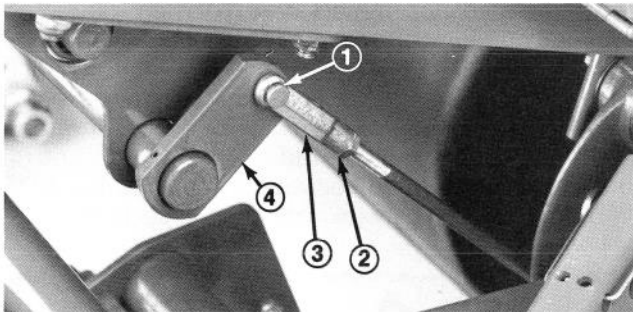

Figure 41
A brake adjustment rod is located on each side of the Greensmaster 3000-D so the brakes can be equally adjusted. (Fig. 41). Adjust the brakes as follows:
2. If the brakes do not lock equally, disconnect the brake rods by removing cotter pin and clevis pin (Fig. 41).